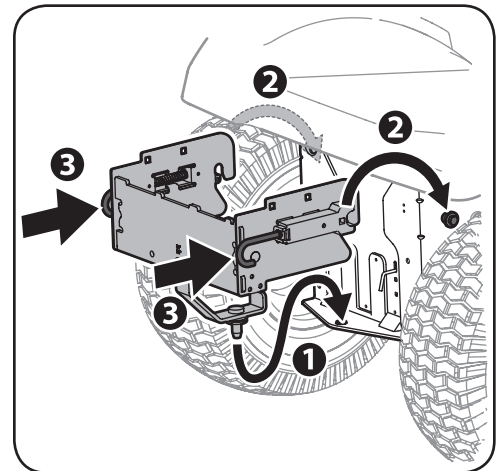

Figure 1-4
3. Slip the pin at the bottom of the bracket support assembly into the hitch adapter on the rear of the mower frame at a slight angle. See 1 in Figure 1-4.
4. Ease the hitch bracket assembly forward over the shoulder bolts on the sides of the mower frame. See 2 in Figure 1-4.
5. Release the j-pins from the rear of the bracket assembly. See 3 in Figure 1-4.